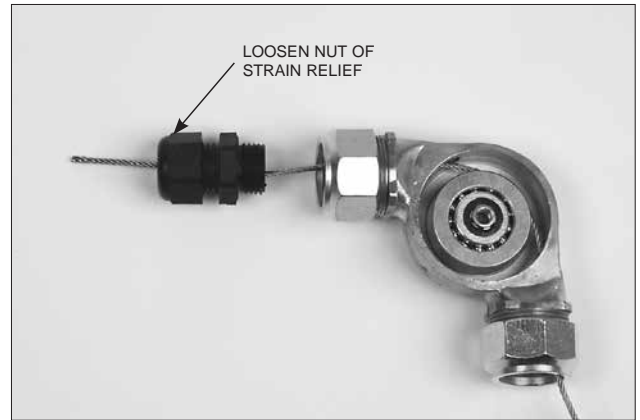

FIGURE 4-52
4. Loosen the nut on the strain relief and thread the wire rope through the strain relief. See Figure 4-52.